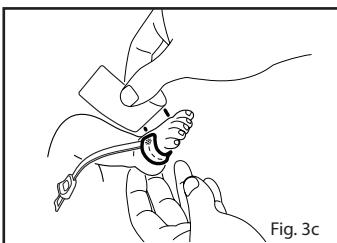

Fig. 3c
4. Refer to **Fig. 3c**. Wrap the adhesive/foam wrap around the foot (or hand) and ensure that the emitter window (\*) aligns directly opposite of the detector. Be careful to maintain proper alignment of the detector and emitter windows while attaching adhesive/foam wrap to secure the sensor.